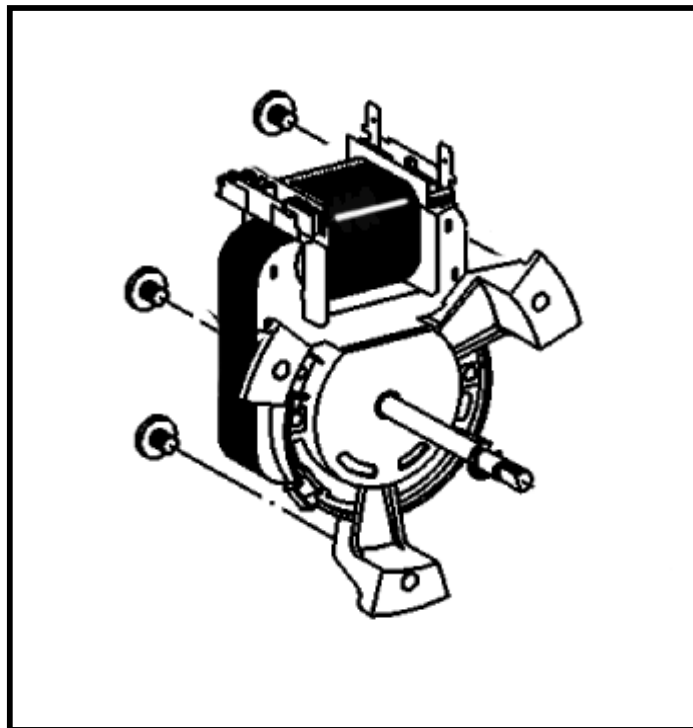

Figure 5-18: Convection Fan Motor and Retaining Screws
8. Refer to Figure 5-18. Remove the three Retaining Screws.